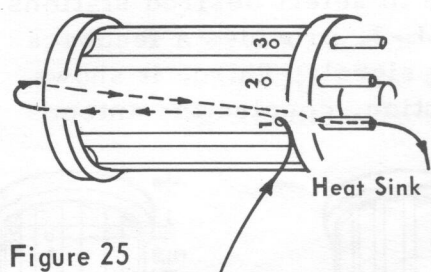

Figure 25
- 5 Insert the tinned end of the wire through the hole directly above pin #1. Pull the wire up and out through the top of the coil form and then pass it back down the center of the coil and through pin #1. Pull about 1/4 inch of the tinned wire through the pin and solder it in place. **CAUTION:** For ease of soldering, place the coil on the bench with the base pointing up. When soldering the wire in the pin, it is important that you heat the pin as well as the wire. The molten solder must run down inside the pin and NOT over the outside of the pin. If the diameter of the pin is increased by placing solder on the outside, it will be impossible to plug the coil form into the socket provided. To prevent overheating of the pin and loosening from the plastic base, it may be necessary to use a pair of pliers as a heat sink. See Figure 25.